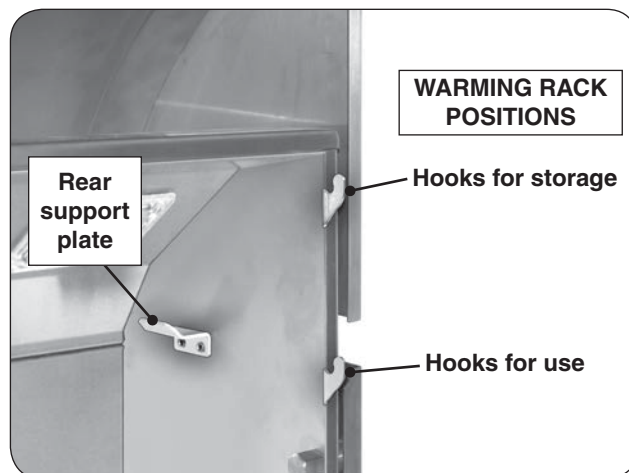
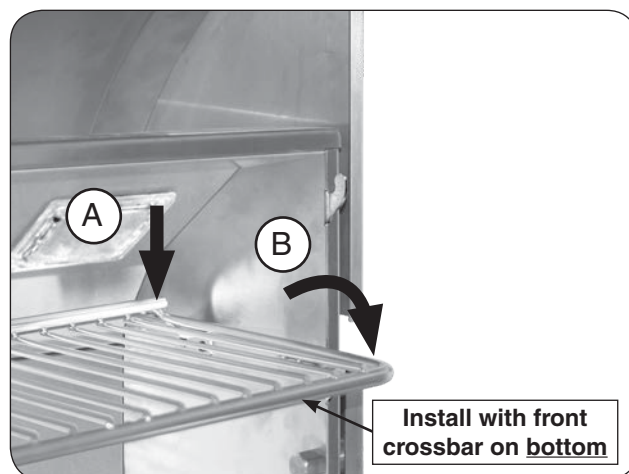
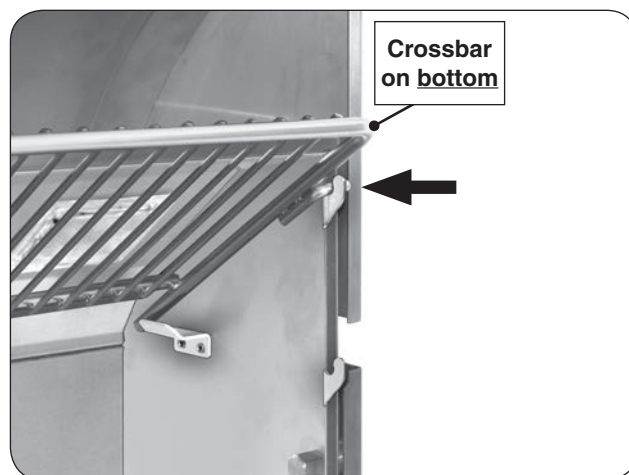

Fig. 23-1 Warming rack hooks
Fig. 23-2 Place warming rack for use
Fig. 23-3 Place warming rack in storage position
1. Locate the warming rack hooks and rear supports found on the upper portion of the grill oven (see Fig. 23-1).
2. With the warming rack oriented as shown, carefully rest the rear of the rack onto the rear support plates (Fig. 23-2, A), then rest the warming rack arms onto the two lower hooks for use (Fig. 23-2, B). Use the top hooks for storage (see Fig. 23-1 and Fig. 23-3).